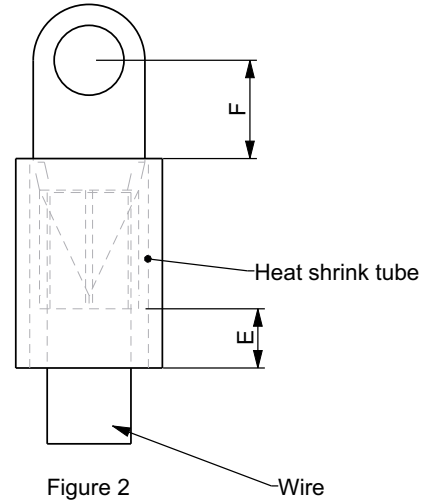

Figure 2
- Wire should be crimped into UL compliant ring lug before putting on the insulated heat shrink tube, which is UL and CSA compliant, 600Vac voltage withstand, YUPU2, please refer to **Figure 2** for the specifications of the heat shrink tube.